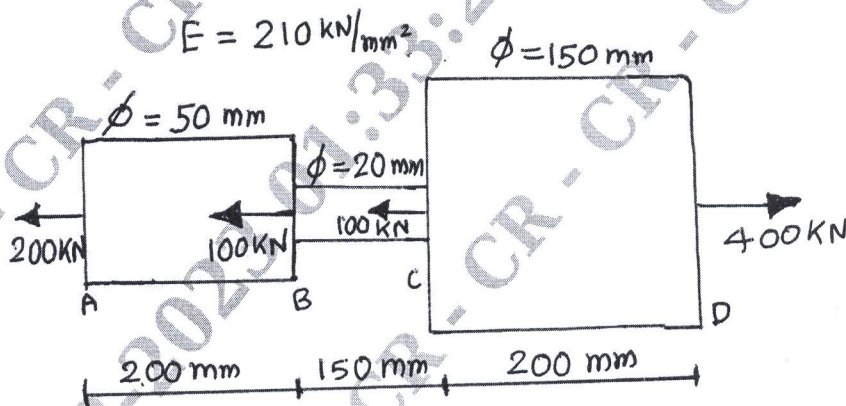

Fig.Q.2(a)
- 2 a. Determine the net deformation of a stepped circular bar with different forces as shown in Fig.Q.2(a). Take Young's modulus $E = 210 \text{ kN/mm}^2$.